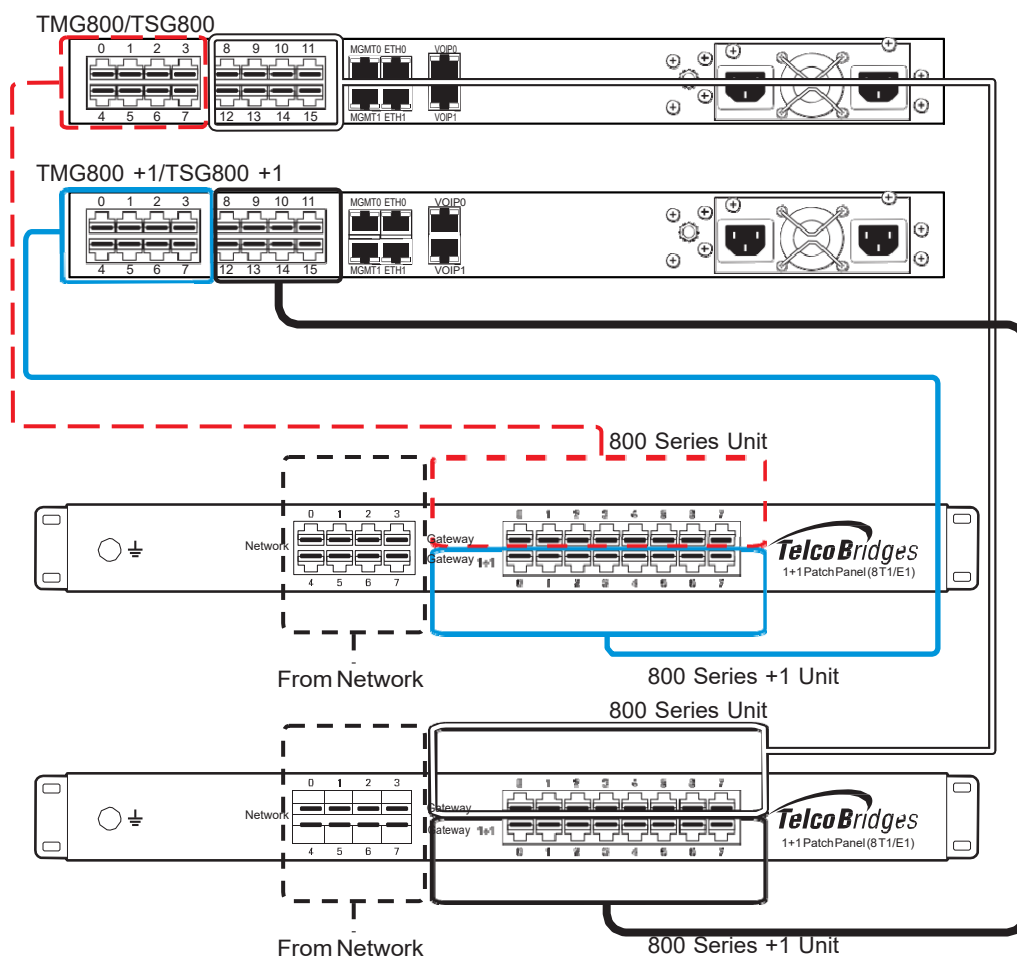

Figure 2.11 TMG800/TSG800 and TMG800 +1/ TSG800 +1 connecting to the 1+1 patch panels (8 T1/E1)
1. Connect T1/E1 lines 0-7 of the Network section of the patch panel to the remote equipment. See figure 2.11 on page 26.